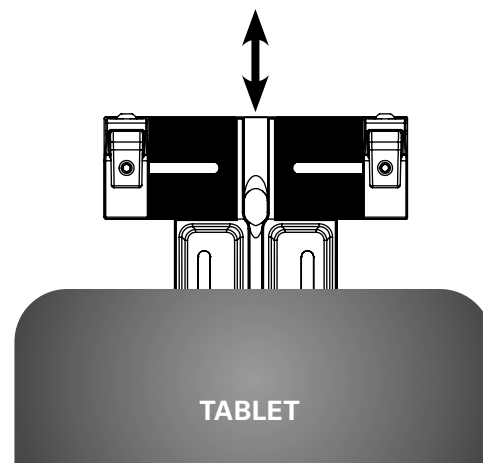

Figure 7
8. Place the tablet back in the holder. Move the height adjuster up/down to fit the tablet. (figure 7)